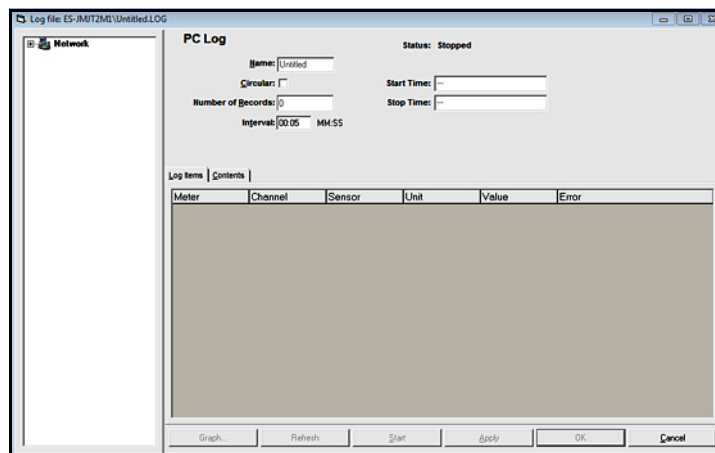

Figure 84: The PC Log Window
7. At the resulting "*PC Log*" window shown in *Figure 84* below, place a check mark in the text box to create a *circular log*, or leave this box empty to create a *linear log*.
8. Enter a sampling *interval* in the text box shown in *Figure 84 on page 67*, or check “Max Comm Rate” to sample data at the fastest speed allowable by the system (1 sec).
- Click “Log Items” tab (see *Figure 84 on page 67*) for a list of the parameters specified for logging).
- Click “Contents” tab (see *Figure 84 on page 67*) for a list of all the data points logged to date for the parameter currently highlighted on the “Log Items” tab).